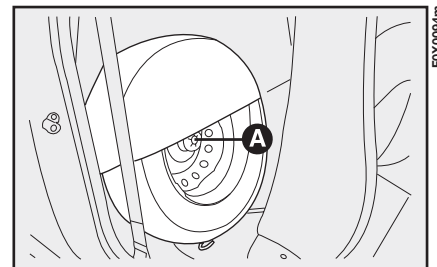

fig. 113
- 3) Remove the spare wheel cover canvas and completely unscrew the ring nut A-fig. 112-113 using, where necessary, the anti-theft nut B-fig. 113.